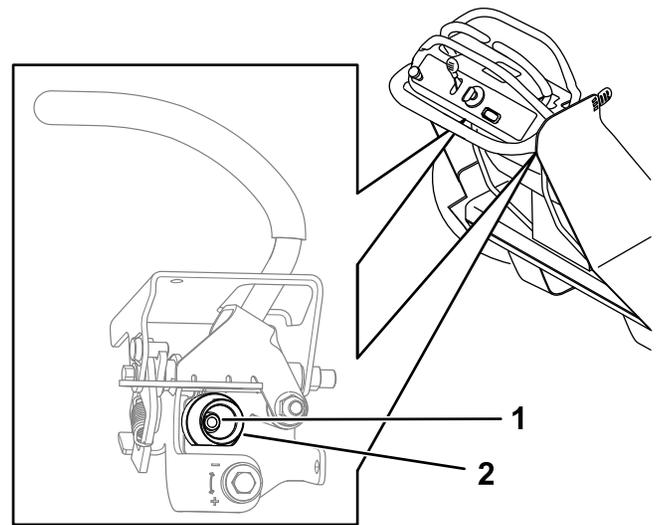

Figure 61
5. Loosen the nut holding the cam for the motion-control lever you are adjusting (Figure 61).
6. Adjust the cam until it aligns with the other motion-control lever and tighten the nut for the cam (Figure 61).